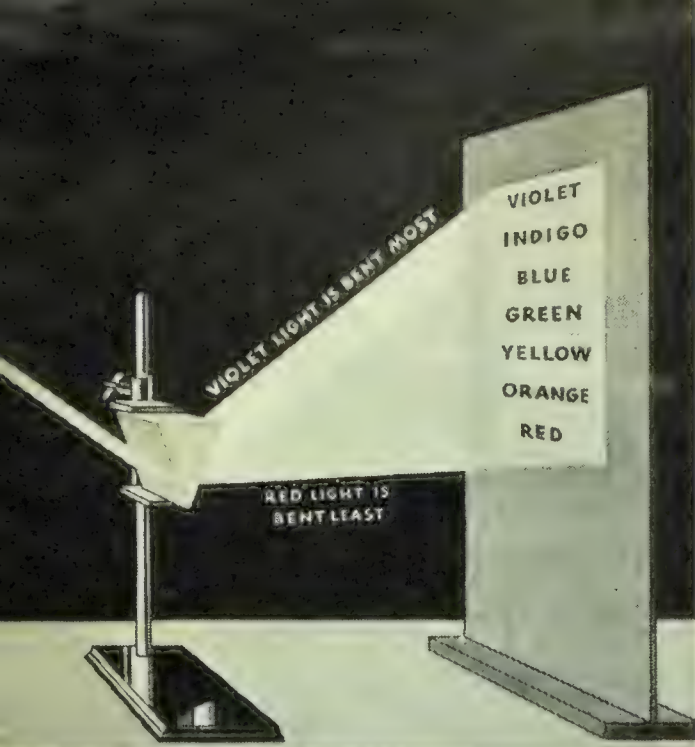

FIG. 482. How a prism separates the rays of light
*Experiment 107. WHAT COLORS DOES SUNLIGHT CONTAIN?* Pull down the shade of a window so that only a narrow beam of sunlight can enter the room. Darken the rest of the room. Hold a glass prism in this beam of sunlight and put a white cardboard behind it (Figure 482). What do you see?
You know already that light waves are bent where they pass into glass. Different kinds of light waves (colors) are bent differently. The shortest light waves are bent more than the longer light waves. You can see, therefore, that violet light will be bent more than the red light. Since each kind of light wave is bent differently, the result will be bands of the different colors on the screen (Figure 482). Did it surprise you to learn that white sunlight is really a mixture of all the colors of the rainbow? You saw, however, that the colors could be mixed again to produce white light when a reading glass was held behind the prism.